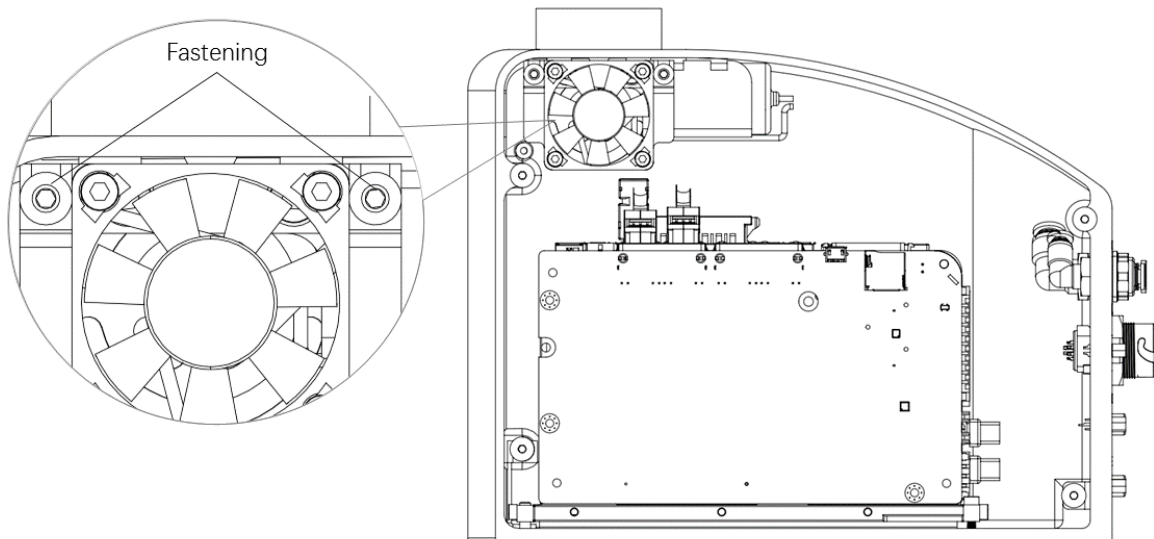

Figure 5-8 Removal of screws from fan
- Step 2** Use 2.5 mm Allen wrench to loosen the screws and remove the fan module. The position of the screws is shown in Figure 5-8.